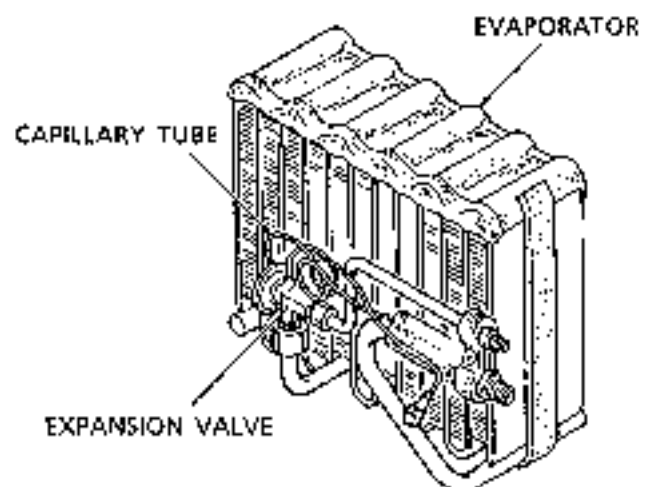

Fig. 7 Evaporator
#### (1) Evaporator (See Fig.7.)